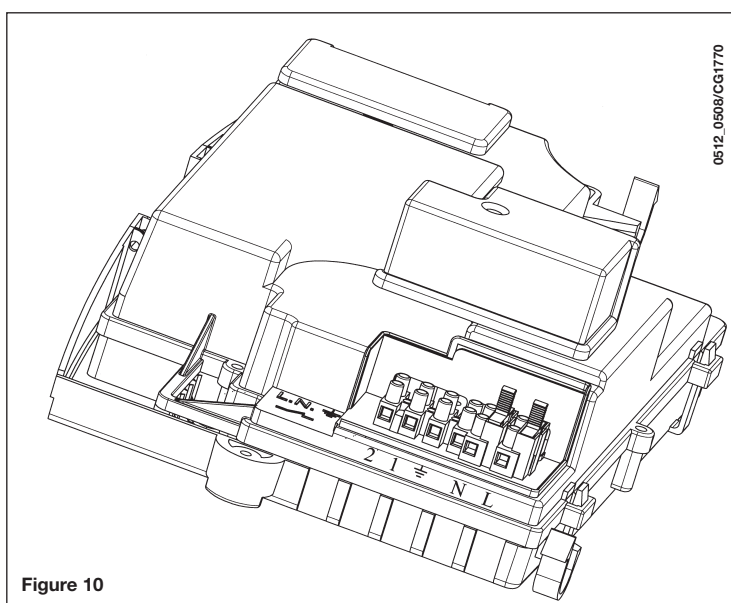

Figure 10
- unscrew the lid and gain access to the wiring (Figure 10).
- Access the power supply terminal block (figure 10);
- connect the room thermostat cables to terminals (1) e (2);